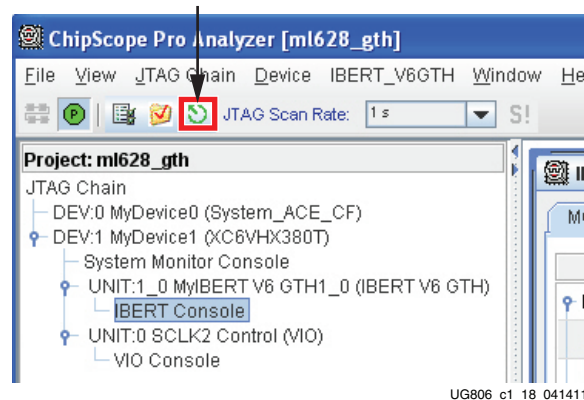

Figure 1-18: Reset All Button
10. At the top of the ChipScope Pro analyzer window, click the **Reset All** button (Figure 1-18).
If after the **Reset All** button (Figure 1-18) has been pressed the **RX Bit Error Count** for one or more Quads displays a non-zero value, click the respective BERT **Reset** button (Figure 1-20) to zero the count.